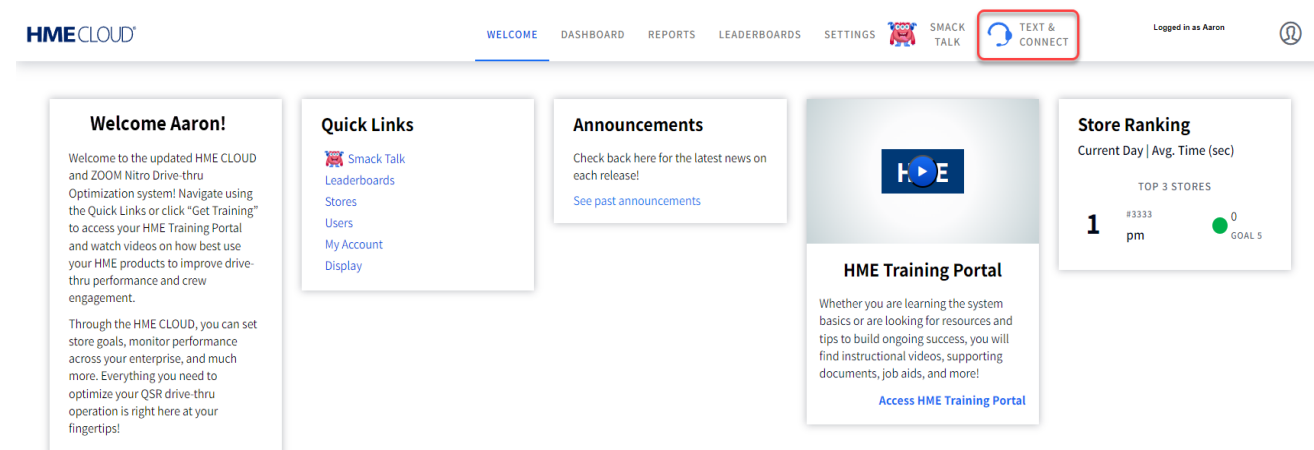

Fig. 8.12
6. On the top navigation bar, click/tap on the TEXT & CONNECT option (see Fig. 8.12).